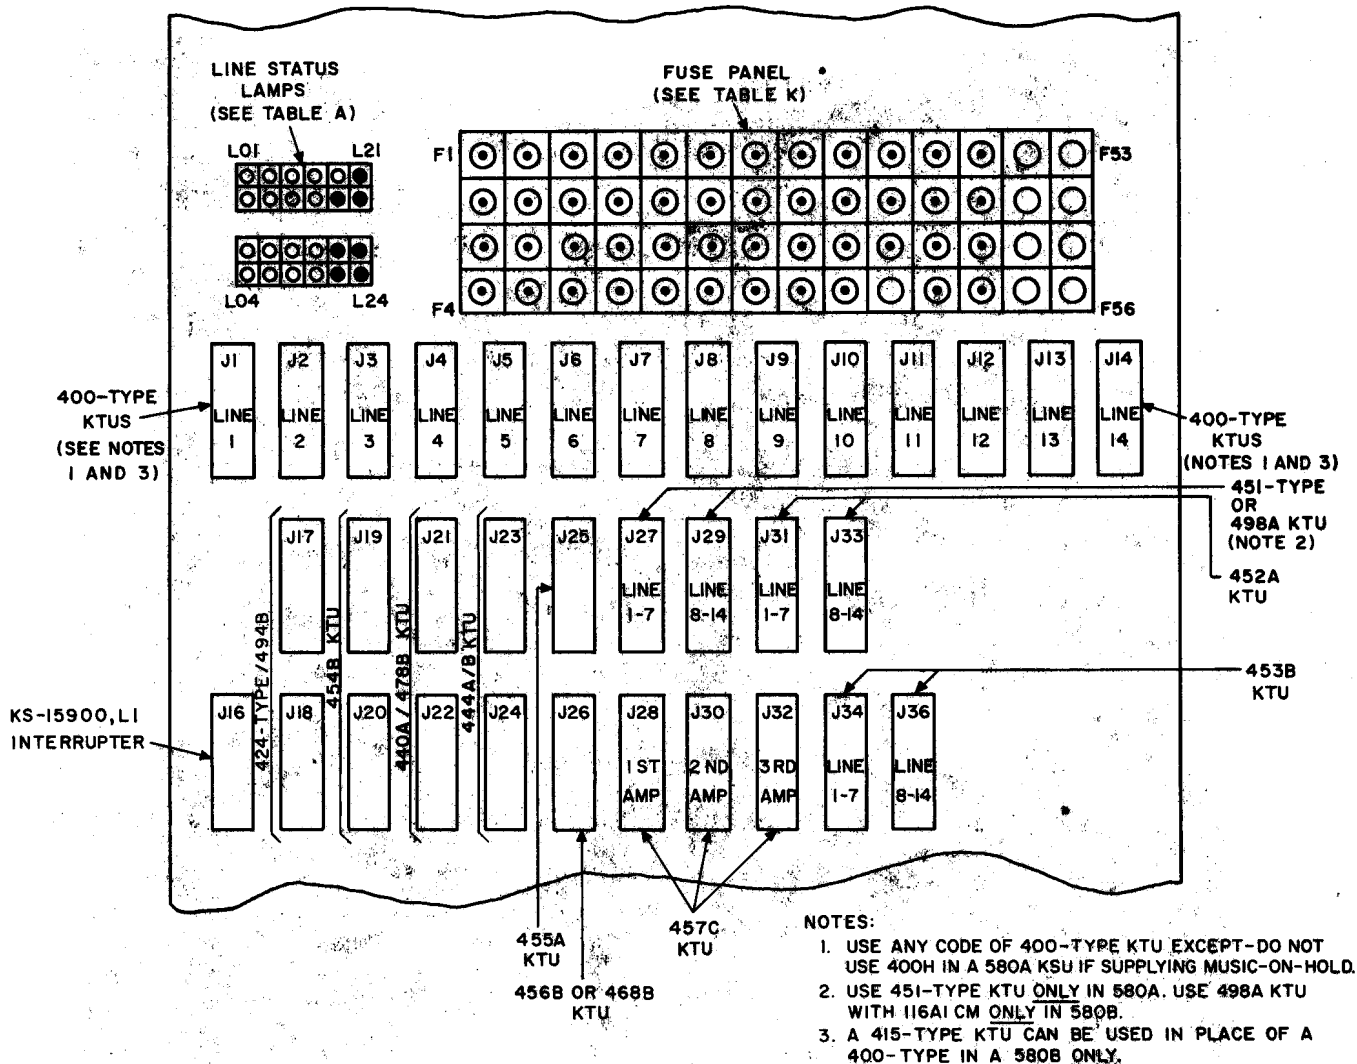

Fig. 3—580-Type KSU, Fuse Panel, Lamp Panel, and KTU Connector Arrangement
- Fuse panel (Fig. 3) which provides power distribution to connectors and station blocks.
- Status lamps (Table A and Fig. 3) to indicate status of CO/PBX and intercom lines.
2.13 The lamp panel in the 580-type KSU provides a status lamp for each CO/PBX line and intercom path. The lamps give the same indication of line status (flash, steady, wink) as the line lamps on the telephone sets. See Fig. 3 and Table A.